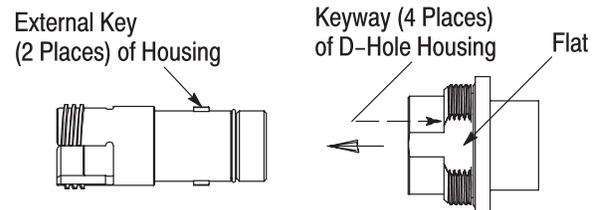

Figure 13
7. Using an applicator swab, apply a thin film of the grease around the O-ring on the outside of the EB insert, the front seal on the inside of the housing, and the internal O-ring of the D-hole housing. Remove any excess grease. Refer to Figure 13, Detail A.
8. Align the large diameter end of the D-hole housing with the back (end opposite the front seal) of the housing so that the desired rotational orientation is established (use the flat on the D-hole housing as the reference point). Refer to Figure 13, Detail B. Then slide the D-hole housing onto the housing until a distinct bottoming of the D-hole housing is felt.
NOTE  There are 4 rotational orientations for mounting the connector to the panel: top, bottom, left, or right. Aligning one of the keyways located inside the D-hole housing with one of the external keys of the housing will establish the rotational orientation (one keyway is parallel to the flat). Refer to Figure 13, Detail B.